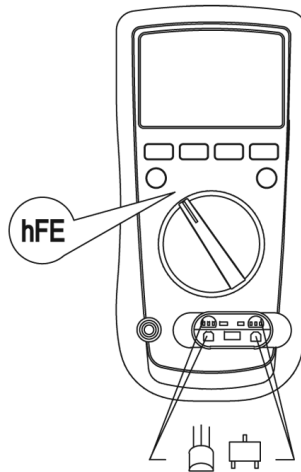

figure 10
## I. Transistor hFE Measurement (UT61A only) (See figure 10)
2. Insert the multi-purpose socket into the input terminal as shown on figure 10.